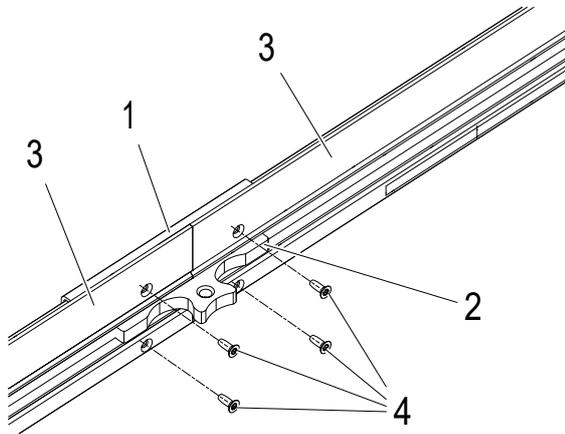

Fig. 79: Tighten 4 self-tapping screws (2 Nm)
- Tighten all 4 self-tapping screws (W5154-K30X8-ES) (4) with a torque shut-off screwdriver (e.g. TorqBee) to 2 Nm (see Fig. 79).